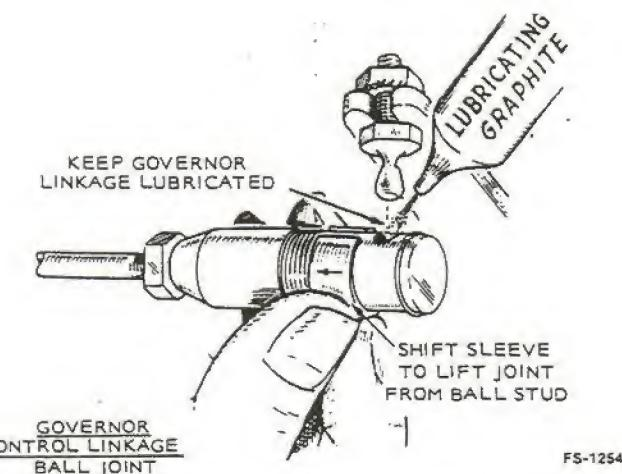

FIGURE 19. GOVERNOR BALL JOINT
**Governor Ball Joint:** The control linkage ball joint should be kept lubricated with graphite. If the ball joint is neoprene, do not lubricate. Keep linkage free of dust and grease. See Figure 19.